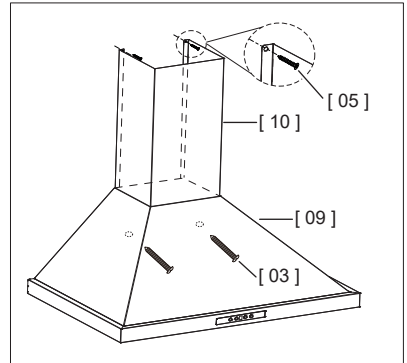

Fig 6
1. Secure **Range Hood [09]** with two **#10 x 1.77" Screws [03]** from the inside. (Fig 6)
2. Secure the **Lower Flue [10]** with two **#4 x 0.55" Screws [05]**. (Fig 6)